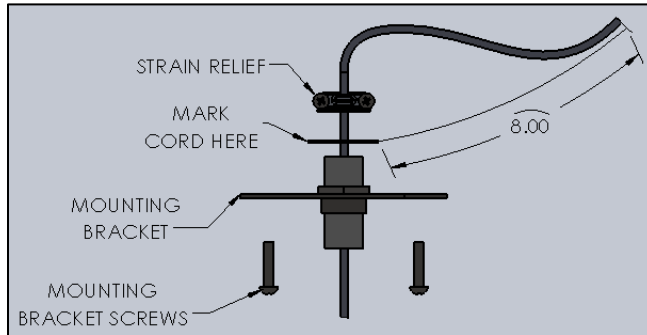

FIG. 28 – DETAIL B (SHOWING CORD TRIM INFORMATION)
- Mark CORD with marker above the all-thread and Trim off excess cord leaving minimum of 8" past the Top of the all-thread as shown below in fig. 28.